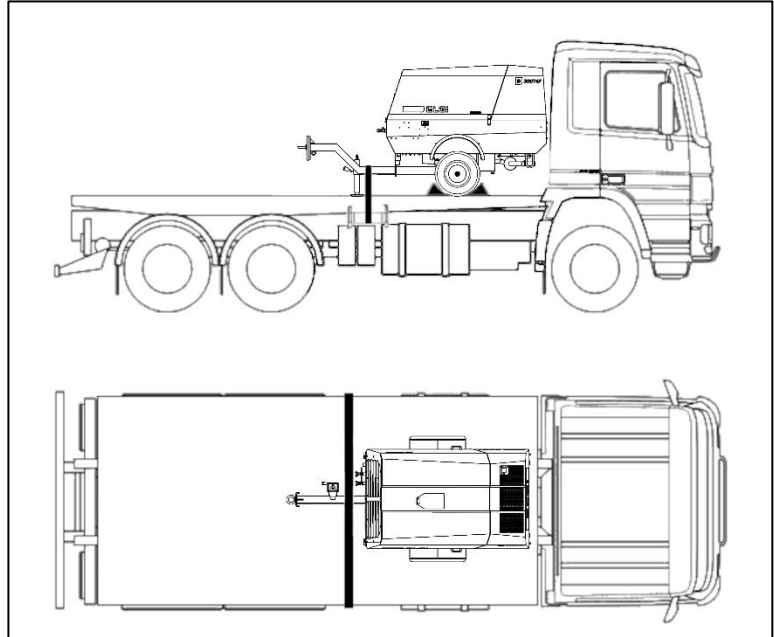

Figure 6.1-1 Instruction for towing in safe conditions
- 2) Place the towing bar as shown in Figure 6.1-1.
- 4) Set two wedges (Part A Figure 6.1-1) on each wheel, attaching them to the vehicle floor, in order to prevent the machinery from moving. Utilize wedges of appropriate sizes, both in height and in width.